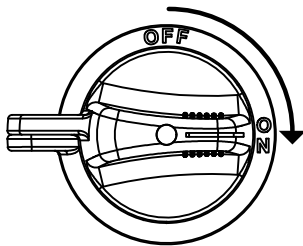

Figure 38. Battery Switch (ON)
4. Place the **Battery switch** (Figure 38) in the **ON** position.